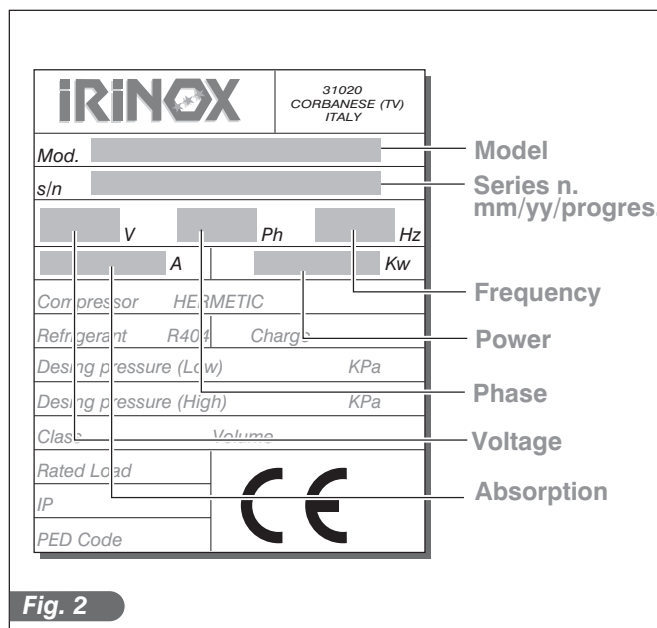

Fig. 2
- The plate carrying the features of the appliance is applied on the side (fig.2).